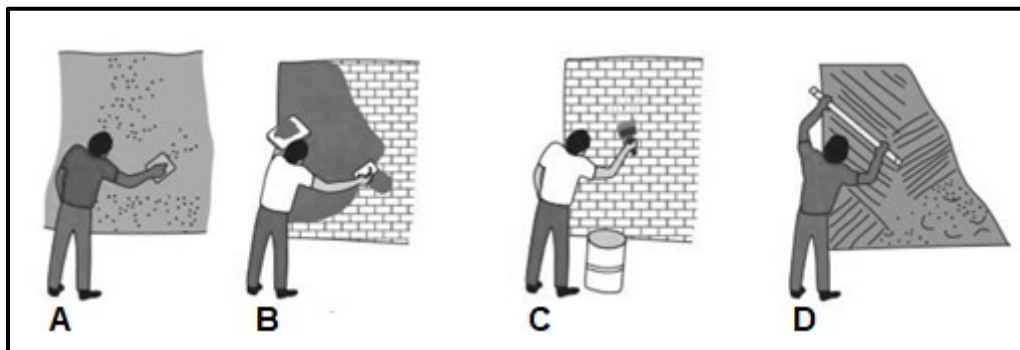

FIGURE 5.1
- 5.1 The pictures in FIGURE 5.1 below show steps of a building process. Study the pictures and answer the following questions.